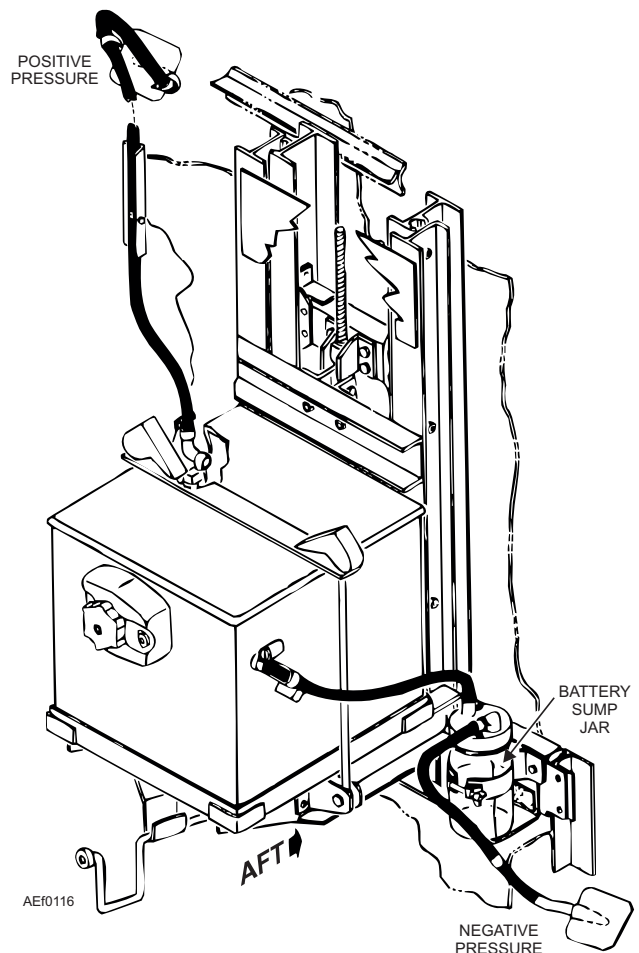

Figure 1-16.—Battery vent system.
**VENTED LEAD-ACID BATTERY (VLAB).**— In a vent system (fig. 1-16), the void above the cells and